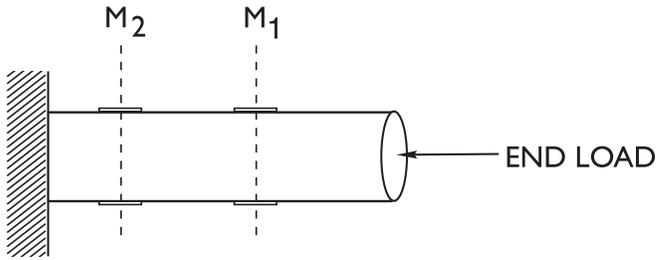

FIGURE 2
- 1) The Weigh Bar is insensitive to end loading (See Figure 2).